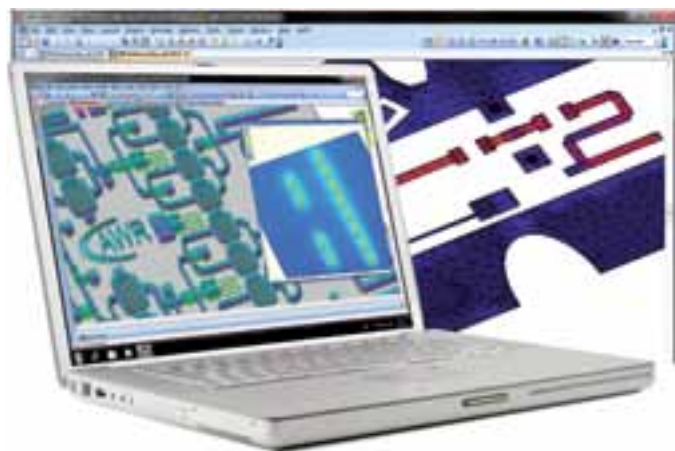

Figure 3: AWR’s Microwave Office & SYMMIC target electrical-thermal simulation.
- **AWR Connected for CapeSym SYMMIC:** electrical-thermal tool combination (see Figure 3)